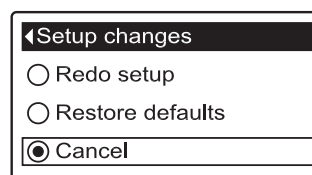

FIG. 85
7. Press the SELECT (O) button to display the Setup changes menu (See Figure 85).
8. If the desired option already has a black dot next to it (See Figure 85), go to Step 9. Otherwise, press the DOWN (▼) or UP (▲) buttons to scroll to the desired option, then press SELECT (O) to choose it.